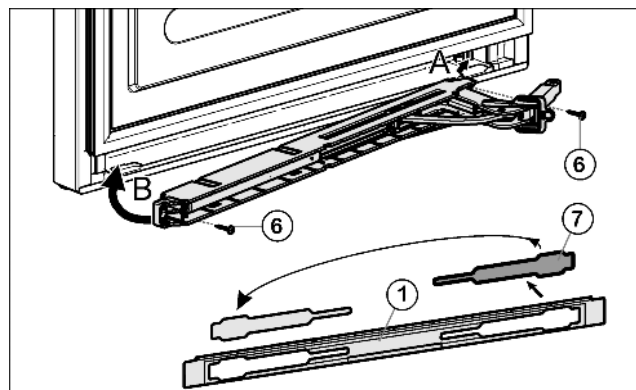

Fig. 10
- ▶ Remove the cover Fig. 10 (7) from the faceplate Fig. 10 (1) and re-insert it at the other side.
- ▶ Engage the soft stop unit with the joint pointing to the hinge side (A) and swivel into place (B).
- ▶ Screw down the soft stop unit (2x Torx® 15) Fig. 10 (6).